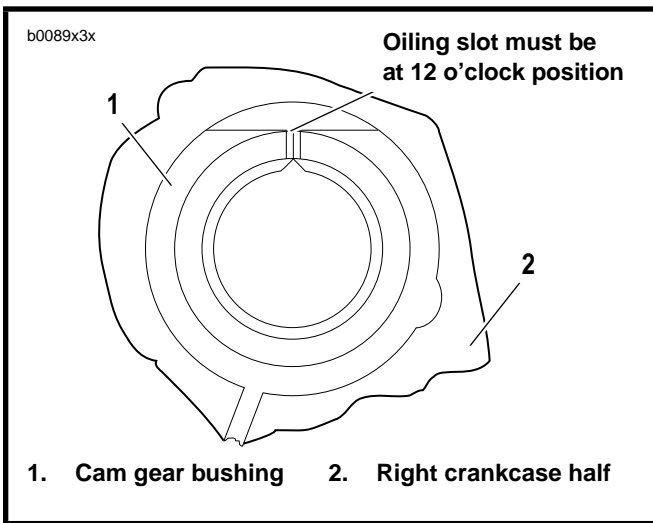

Figure 3-57. Cam Gear Bushing Installed in Crankcase
- See Figure 3-57. Each cam gear bushing (1), to be installed in right crankcase half (2), must be positioned in crankcase bore with its oiling slot at exact top of bore (12 o'clock position).
1. Separate two halves of crankcase, if not already accomplished. Place right crankcase half on flat surface with gearcase side upward. Bushing to be reamed must be oriented as shown in Figure 3-57.